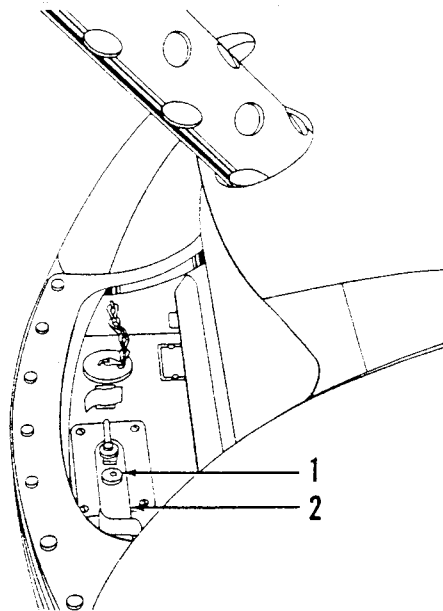

Figure 2-27. Unlatching Elevation Latching Solenoid
- a. Open dome access door and unlock elevation latching solenoid located on inside of elevation saddle support. (See figure 2-27.)